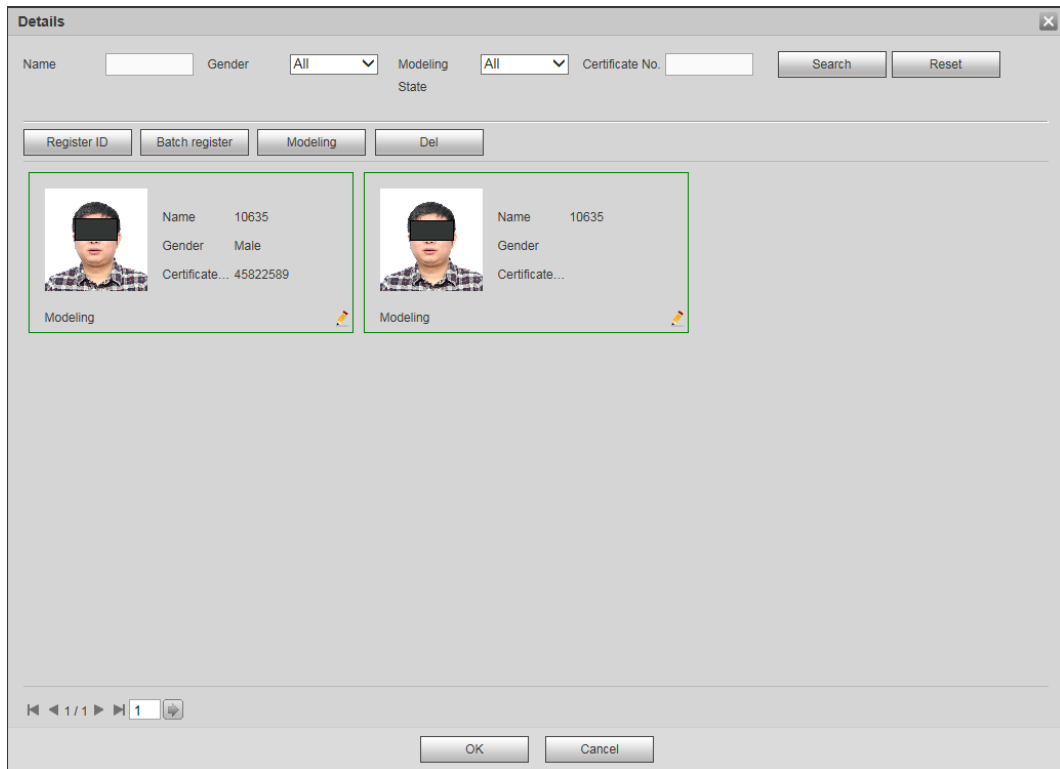

Figure 5-90
5. Click OK and the system displays Modeling. See Figure 5-90.